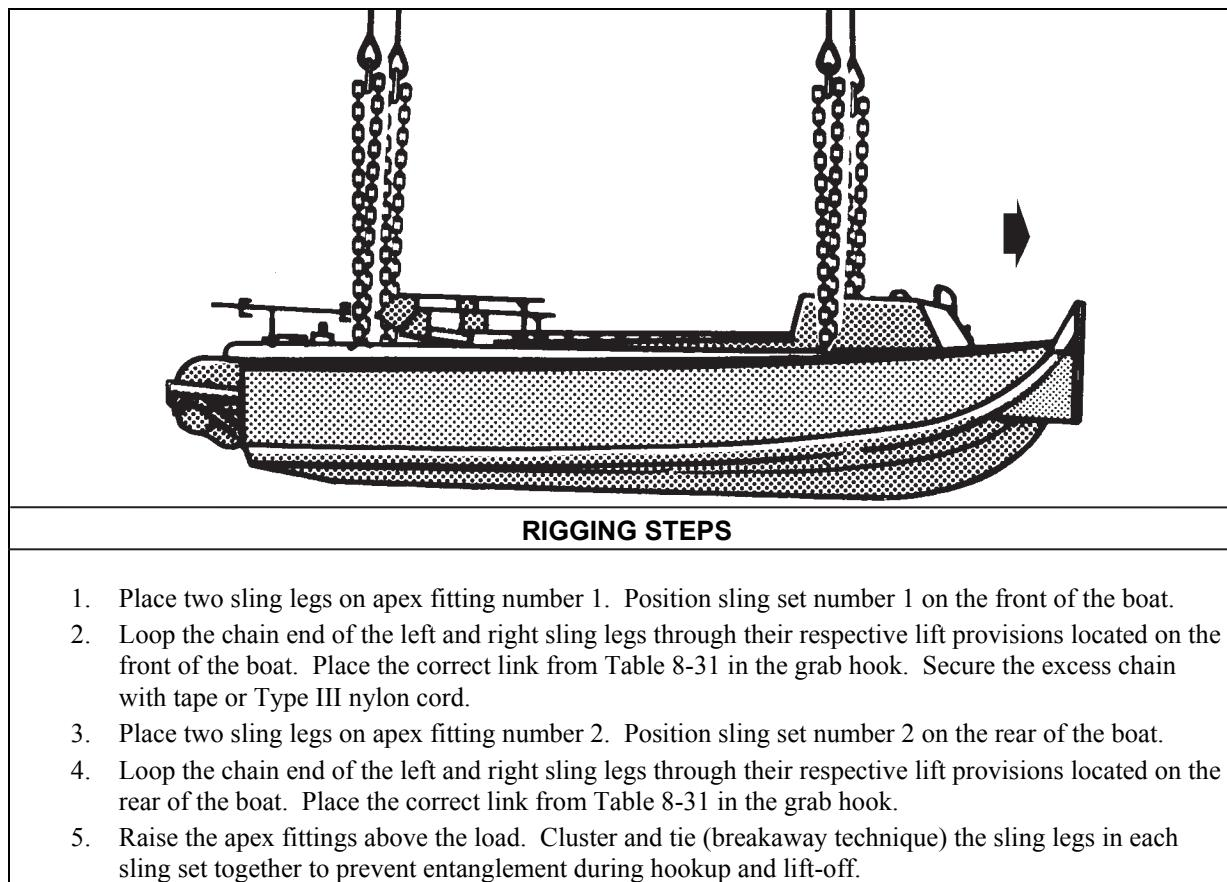

Figure 8-31. Ribbon Bridge Erection Boat, MK2
- **Rigging.** Rig the load according to the steps in Figure 8-31.